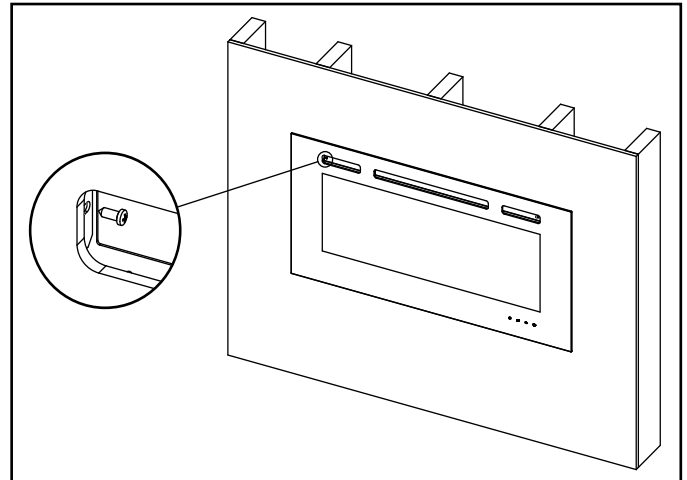

Figure 4.19 Secure Glass Front
3. Thread the two (2) ST3X8 screws into the threaded holes on the glass panel. Check the alignment of the glass panel and securely tighten the screws. See Figure 4.19.